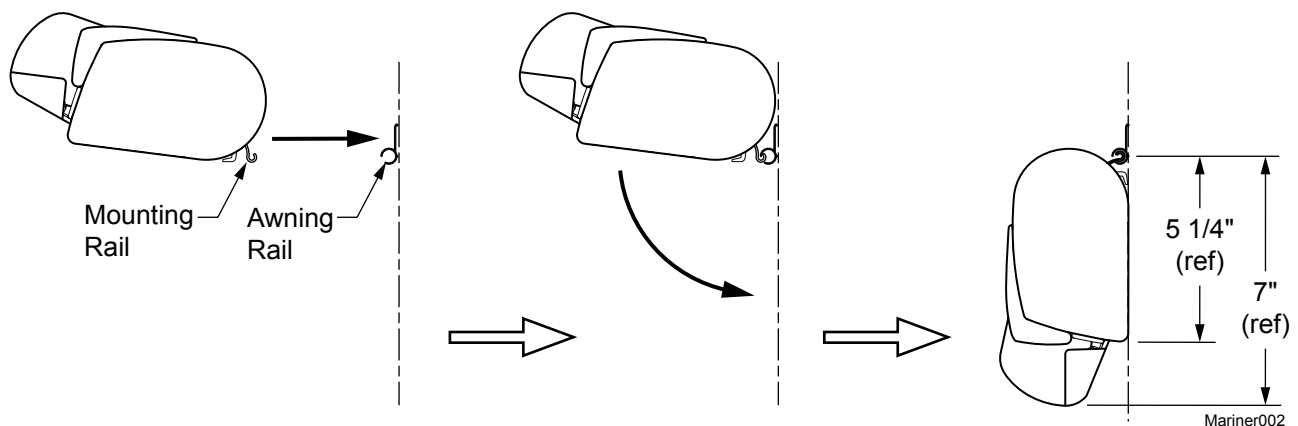

Figure 4. Mount Using Awning Rail.
13. (Refer to figure 4) Drill three (3) 3/16" holes through the back of the case into the mounting surface and into the structure. Use care to not drill through the inner wall.